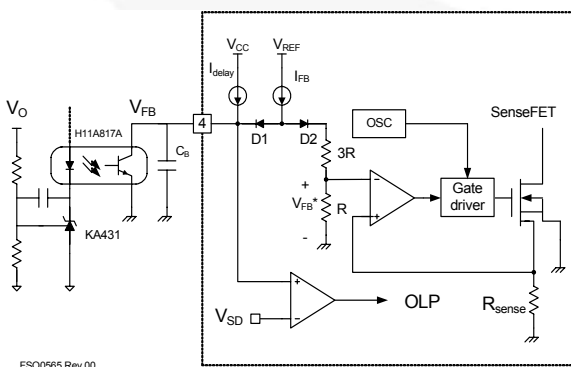

Figure 24. Pulse-Width-Modulation (PWM) Circuit
2. Feedback Control: FPS employs current-mode control, as shown in Figure 24. An opto-coupler (such as the FOD817A) and shunt regulator (such as the KA431) are typically used to implement the feedback network. Comparing the feedback voltage with the voltage across the R_{sense} resistor makes it possible to control the switching duty cycle. When the reference pin voltage of the shunt regulator exceeds the internal reference voltage of 2.5V, the opto-coupler LED current increases, pulling down the feedback voltage and reducing the duty cycle. This typically happens when the input voltage is increased or the output load is decreased.
2.1 Pulse-by-Pulse Current Limit: Because current-mode control is employed, the peak current through the SenseFET is limited by the inverting input of PWM comparator (V_{FB}^*), as shown in Figure 24. Assuming that the 0.9mA current source flows only through the internal resistor ($3R + R = 2.8k$), the cathode voltage of diode D2 is about 2.5V. Since D1 is blocked when the feedback voltage (V_{FB}) exceeds 2.5V, the maximum voltage of the cathode of D2 is clamped at this voltage, clamping V_{FB}^* . Therefore, the peak value of the current through the SenseFET is limited.